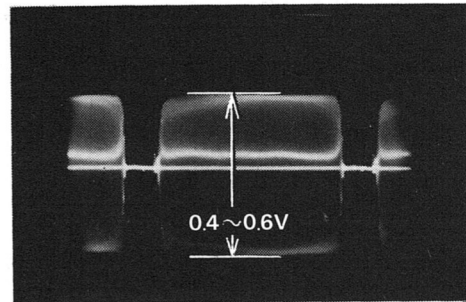
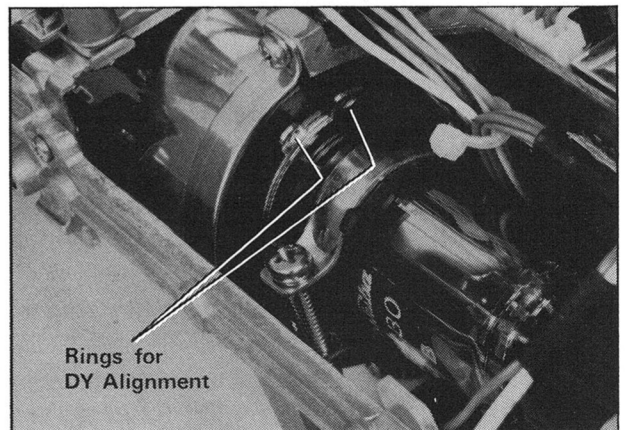

Fig 7.18
Fig 7.19
- (1) Connect the oscilloscope probe between terminals TP-3 and TP-E on the Video Process PCB (CA 1501A)
- (2) Shoot the white pattern and adjust the iris control mechanism to attain a voltage of between 0.4V and 0.6V. (See Fig 7.18)
- (3) Move the two alignment rings (Fig 7.19) of the DY until they are in line, then rotate them until the waveform shown in Figure 7.18 reaches a maximum
- (4) Having obtained a maximum waveform, rotate each alignment ring independently to obtain the flattest waveform possible without sacrificing amplitude.